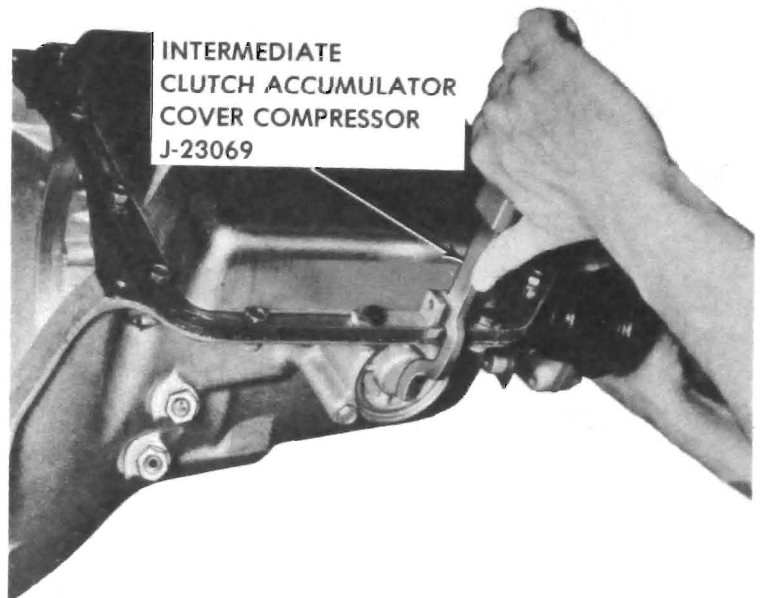

Figure 75-130
4. Install J-23069 tool and compress intermediate clutch accumulator cover and install retaining ring. See Figure 75-130.